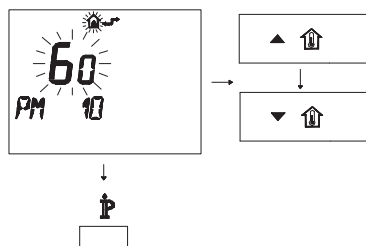

Fig. 8.29
- To modify the programmed SET, act on buttons  or  and wait for the number programmed to flash (Fig. 8.29).